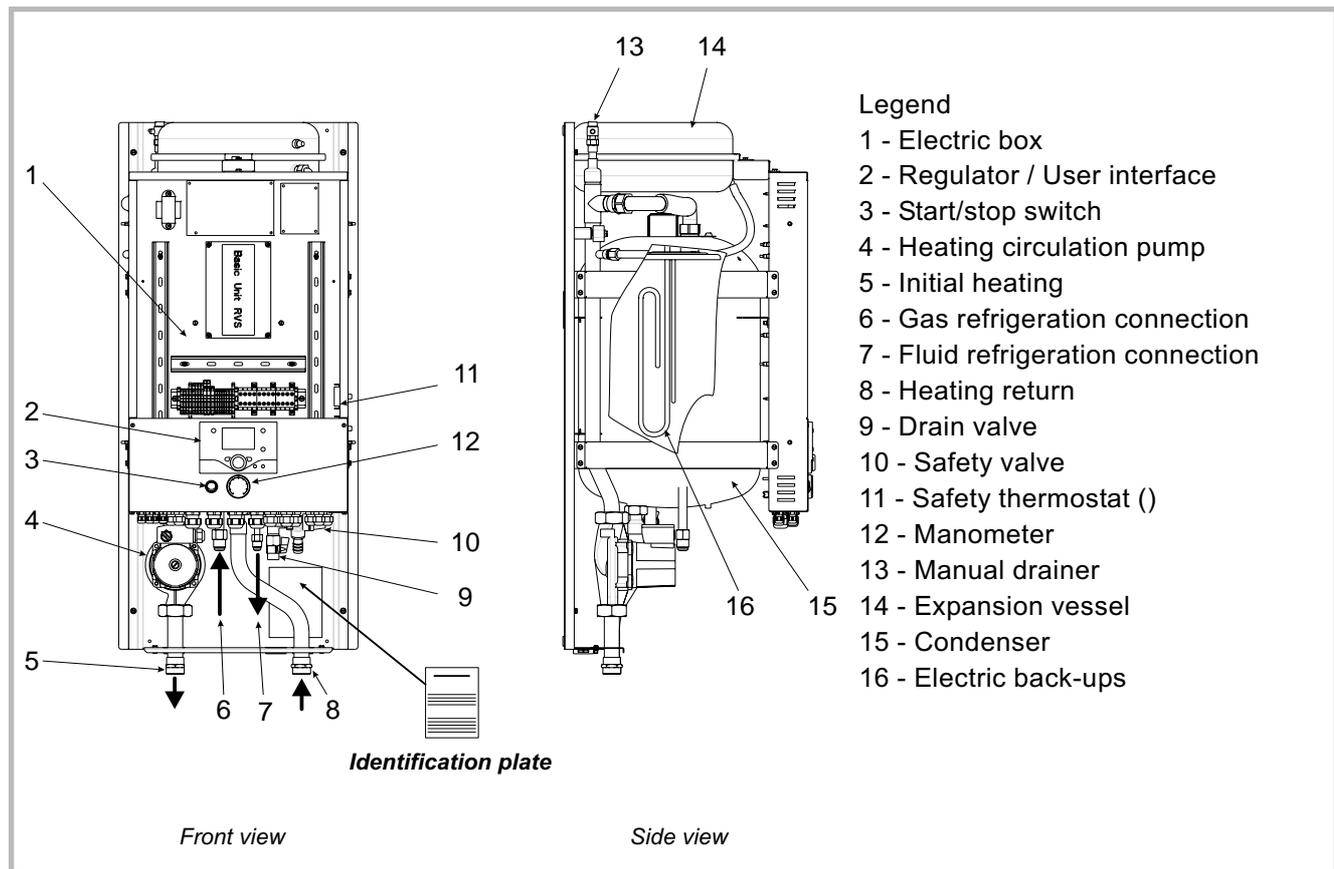

Figure 8 - Hydraulic module components
- In the condenser (rep. 15, fig 8, page 12): The energy in the refrigerant is transmitted to the heating circuit. The refrigerant returns to liquid state.